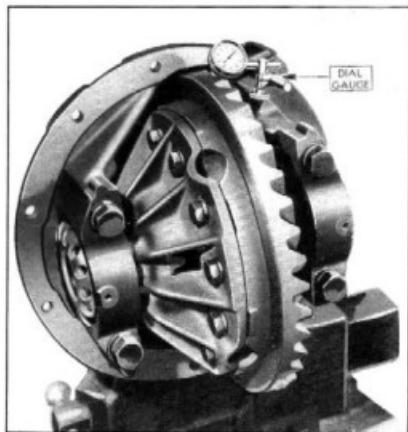

Fig. 29—Checking Ring Gear and Pinion Back Lash
- Check ring gear and pinion back lash. This should be from .005"- .008". If it is more than .008", loosen the right-hand adjusting nut one notch and tighten left-hand nut one notch. If less than .005", loosen the left-hand nut one notch and tighten the right-hand nut one notch. Tighten down the cap screws and recheck the ring gear and pinion back lash with a dial gauge as shown in Fig. 29. Assemble and tighten the adjusting nut locks.